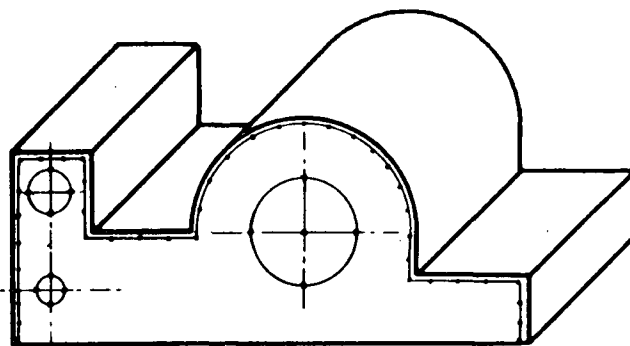

Fig. 5
3. Use a prick-punch to dot along the lines of cast iron pieces prior to dressing (Fig. 5).